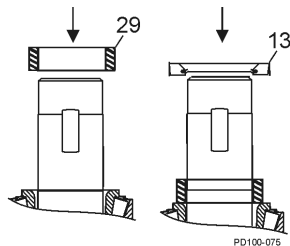

Figure 57 - Install Rear Seal
1. Install the gear spacers (Figure 57, item 29).
3. Install the oil seals with the spring facing out (Figure 57, item 13).